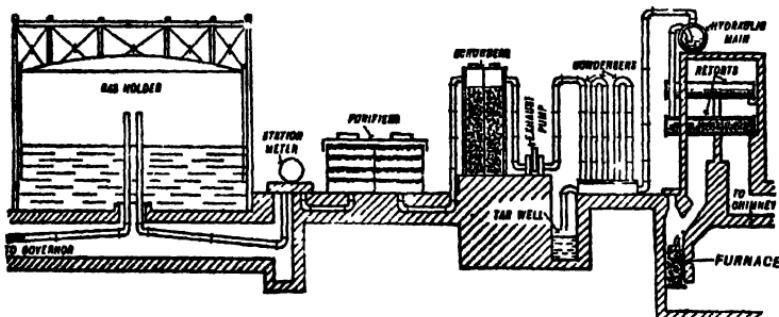

Fig. 7. A sectional diagram of a coal-gas works
The present-day manufacture of coal gas will be readily understood when you have carefully studied Fig. 7. If there is a coal-gas works in your district try and persuade your teacher to arrange for your class to visit it.
**Explanation of Fig. 7.** The gas given off from the coal is cooled in a set of pipes called the **condensers**, and tar together with steam and ammonia are condensed from the gas. In the **scrubber** the gas is washed by water that is continuously trickling over coke and brushwood. This washing removes ammonia. The **purifier** contains trays of lime and oxides of iron. These remove sulphur and carbon compounds from the gas. The purified gas then passes on to the **gas holder**. Although various gas works have slightly different methods of producing coal gas, Fig. 7 gives a good idea of how the average one produces its gas.